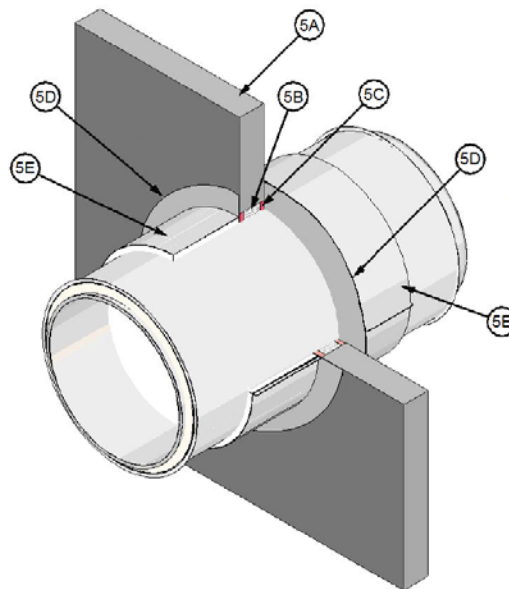

Figure 9. Wall Firestop
5. **WALL PENETRATION FIRESTOP:** When required to penetrate a fire-rated wall assembly, install firestop system described in Items 5A to 5D (see Figure 9).